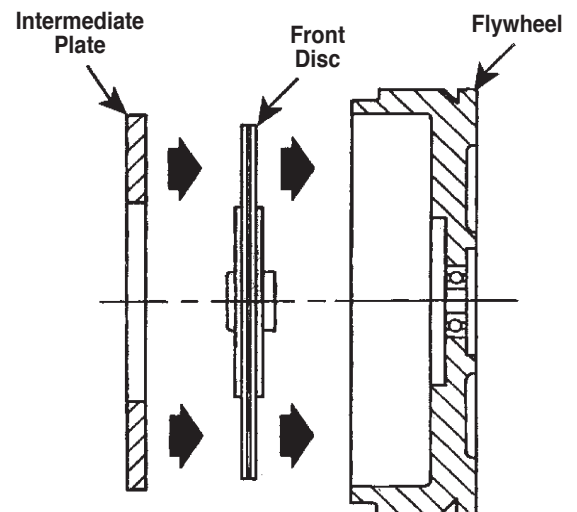

Figure 7
2. Place the new front clutch disc and intermediate plate into the pot type flywheel. See Figure 7. Load the pressure plate and new rear disc on the clutch handler splined shaft. **NOTE:** The clutch handler should be completely collapsed at this point.